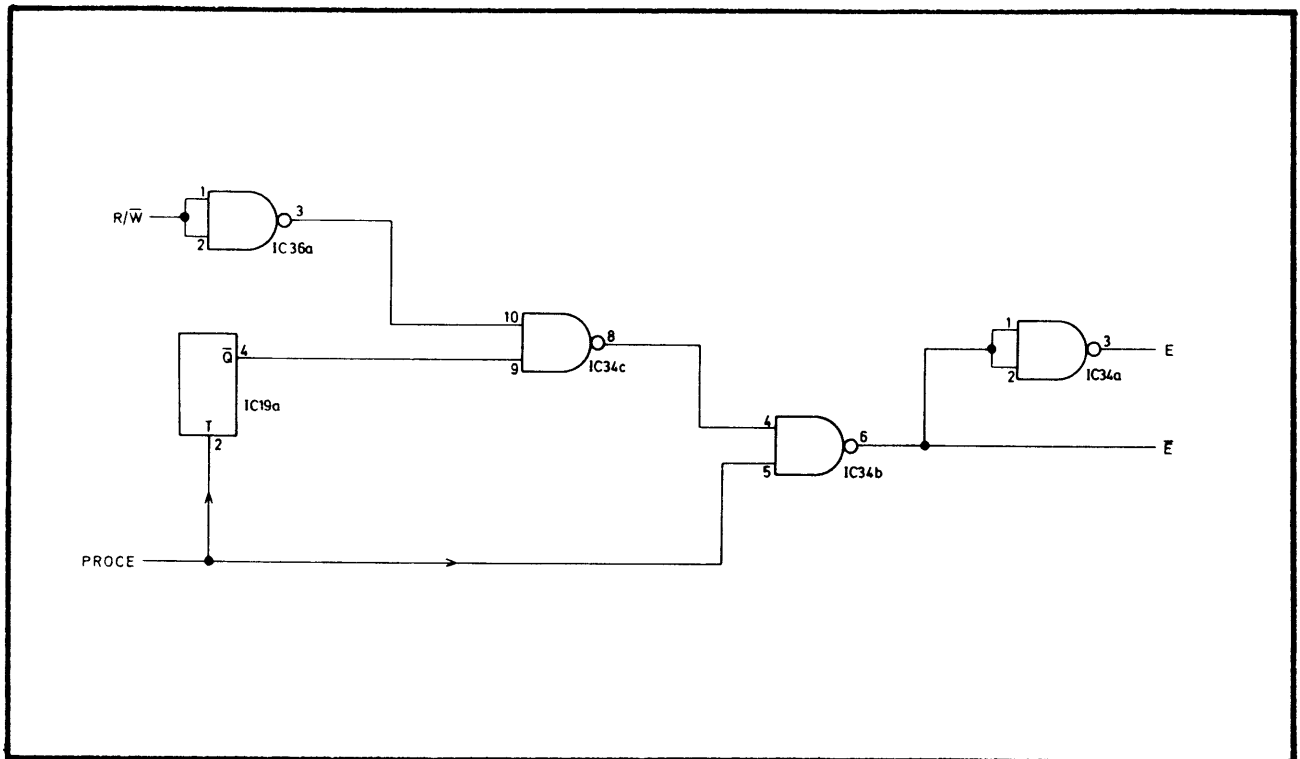

Fig 6.8 Timing Modification Circuit
6.5.4.4.5 The E and  $\bar{E}$  clocks are derived from the PROCE clock in the circuit containing IC19a, IC34a, b and c, and IC36a, shown in Fig. 6.8. When the microprocessor is reading data from the bus, E and  $\bar{E}$  are a copy and the inverse of PROCE. During microprocessor write operations, however, E and  $\bar{E}$  are modified to increase the time during which valid data may be read from the bus.